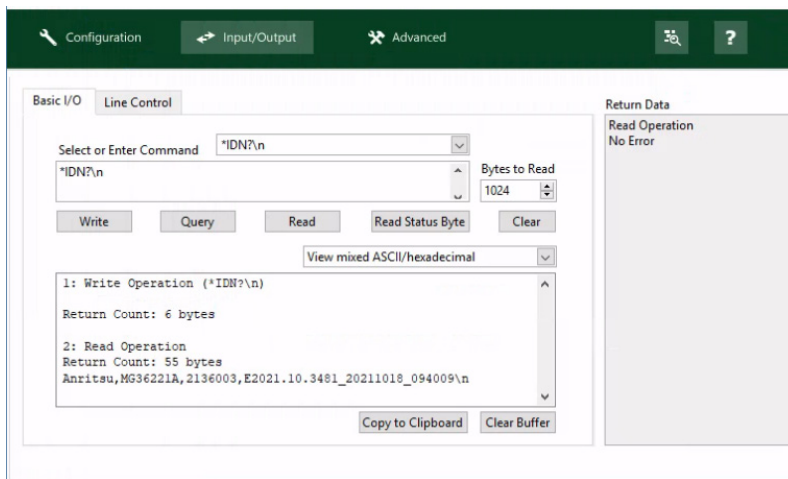

Figure 1-11. VISA Interactive Line Control Tab
3. Click the Read tab. If the PC is connected to the instrument, the command returns the following information from the Buffer: manufacturer name (“Anritsu”), model number, serial number, and firmware package number as shown in Figure 1-11 on page 1-20.